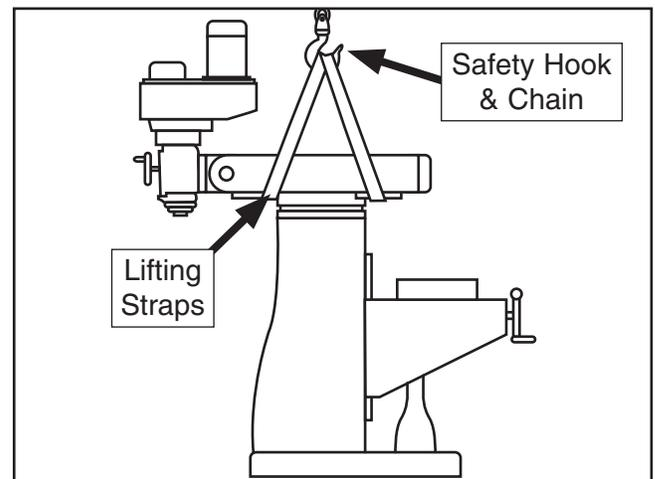

Figure 6. Lifting straps attached to safety hook and chain in preparation for lifting.
2. Place lifting straps under ram and connect them to forklift safety hook and chain, as illustrated in **Figure 6**.